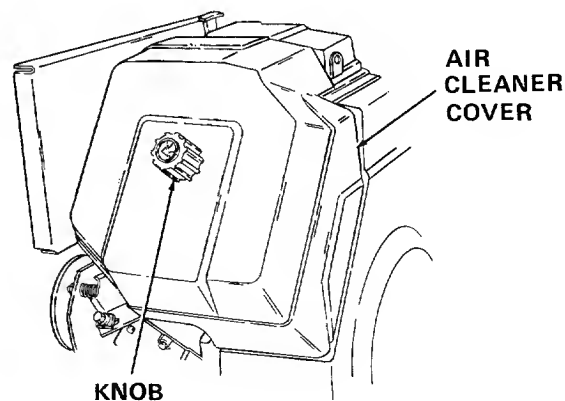

Figure 33. Air Cleaner Housing Components
1. Remove the air cleaner cover retaining knob, air cleaner cover and paper element with precleaner. (See Figure 33.)